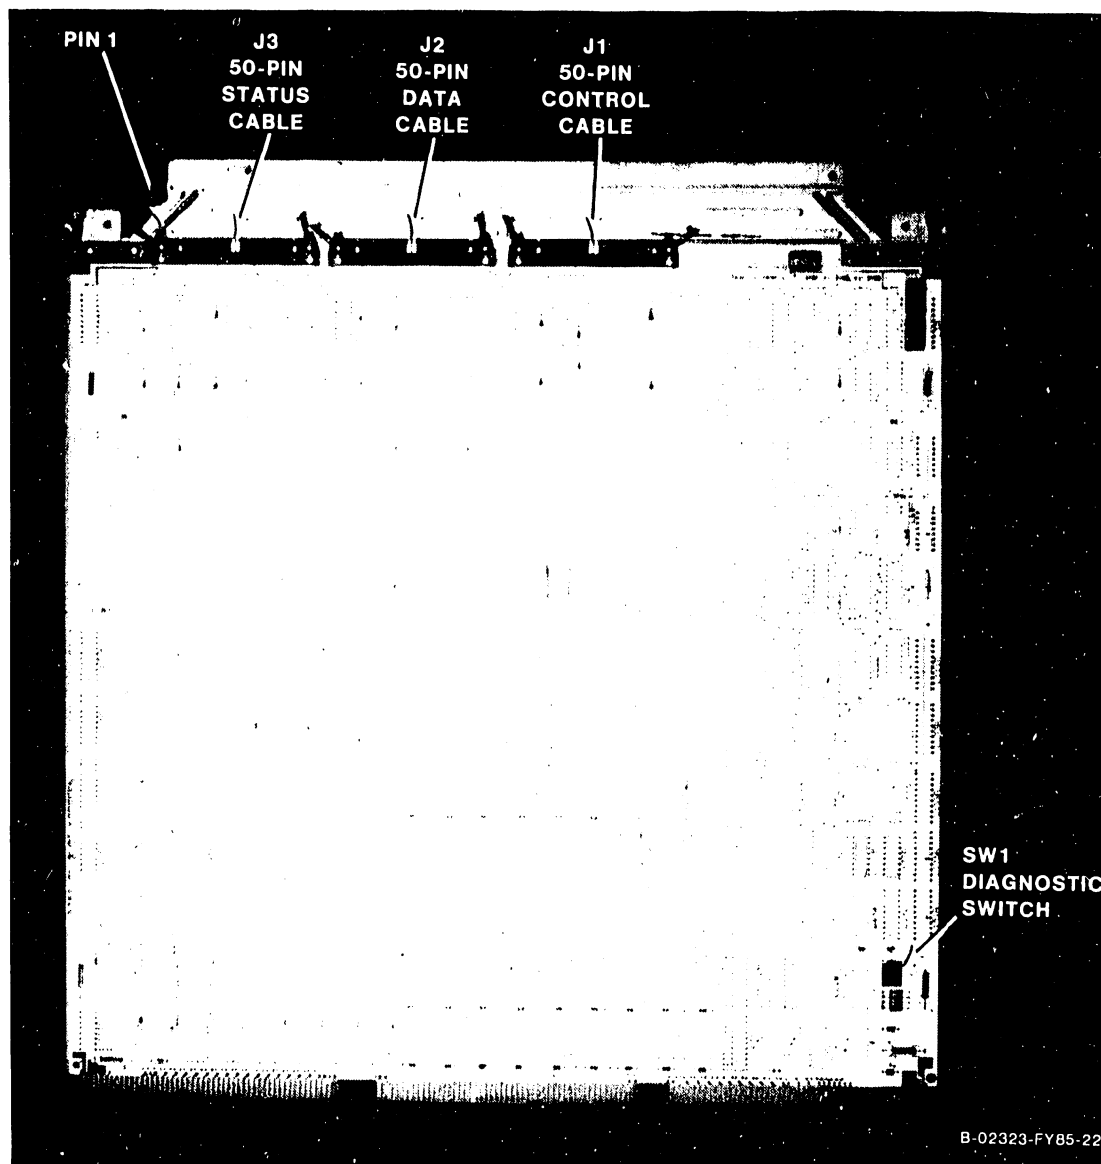

Figure 7-34. 23V95-2 Telex Tape IOC
1. Disconnect all cables from the top of the 23V95-2 Telex Tape IOC (figure 7-34). Note the position of all cables for later reassembly.